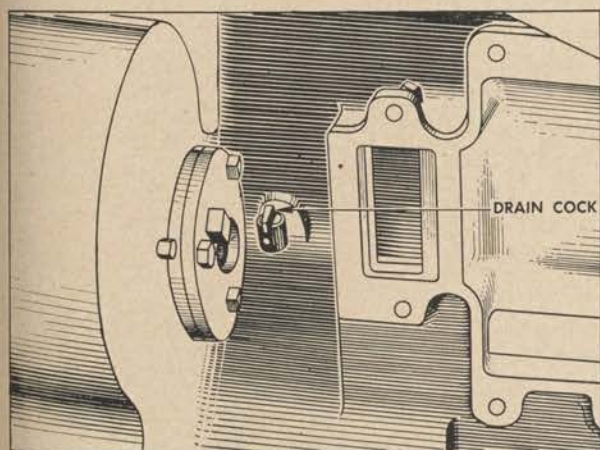

Figure 278. Water drain cock.
4. *Draining cooling system.* Drain water from the engine by opening the drain cock located in the cylinder block behind the fuel pump drive coupling. Figure 278, showing the fuel pump and governor assembly removed, gives the location of the drain cock. Remove the radiator fill cap to permit all water to drain from both the radiator and the cylinder block. Be sure to close the drain cock before refilling the cooling system.